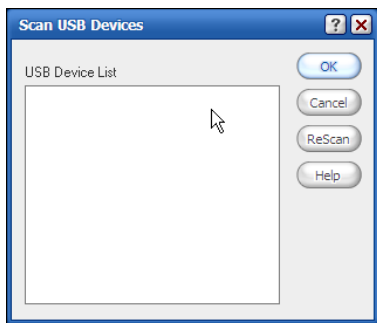

Figure 3—Configure Printer Port: USB or Firewire
3. Select your Firewire device from the available options, and click **OK** (see Figure 3).